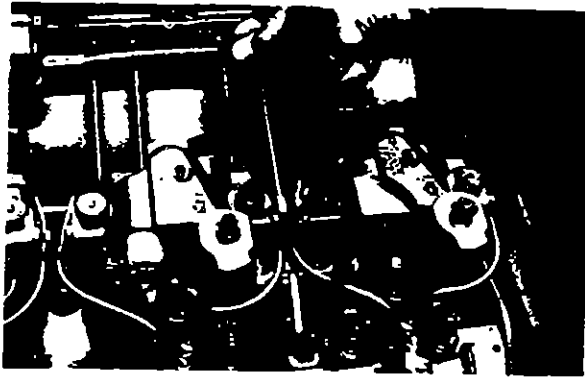

Fig. 1.6.15
4. Hold the oil connector in this position and carefully lock the lock nut. Use two short open end wrenches (Fig. 1.6.15). Remember, too much torque on these connectors will cause them to crack.